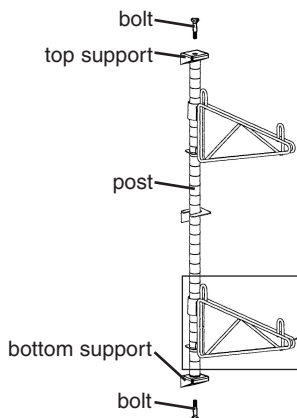

figure 5
- Bolt the posts to the supports that are already attached to the wall (see *figure 5*).